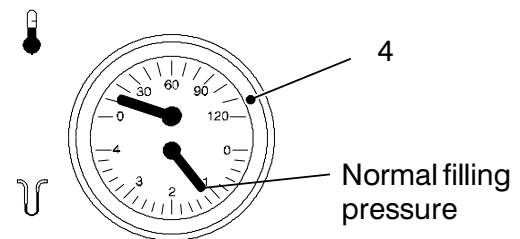

Fig. 2.2
Ensure that the c.h. circuit is regularly filled with water (even if the boiler is only used for d.h.w. supply) checking that the pressure indicated on the temperature and pressure gauge 4 is not lower than that shown in Fig. 2.2.
If the pressure reading on the pressure gauge is below that shown in Fig. 2.2, then the system will require topping up. A filling loop is normally provided by the installer for this purpose.
- 2 Open the valves of the filling loop and watch the gauge until it reaches normal filling pressure as shown in Fig. 2.2.